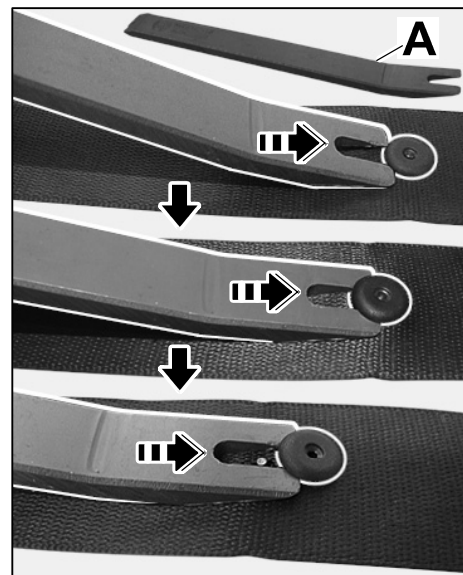

Figure 2
- 5.1 Carefully guide the assembly wedge from Wieländer + Schill (Item No. 581104 ⇒ *Figure 2 -A-*) or Hazet (Item No. 1965-21) between the bottom of the plastic rivet and belt strap.
- 5.2 Carefully press the assembly wedge in the longitudinal direction of the belt until the bottom of the plastic rivet springs up (⇒ *Figure 2*).